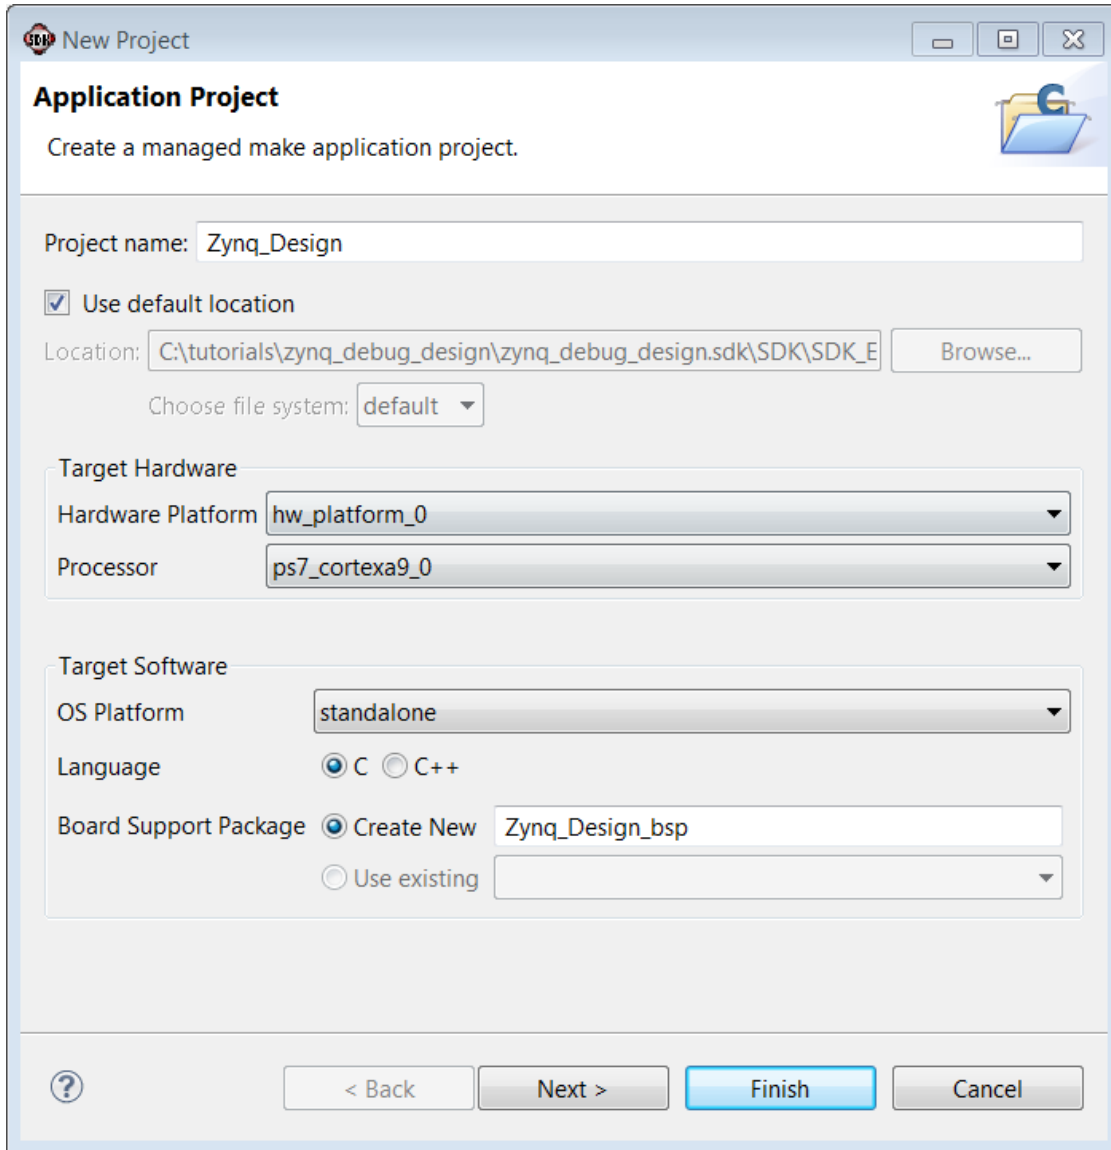

Figure 32: SDK Application Project
4. In the Project Name field, type **Zynq_Design** (FIGURE 32).